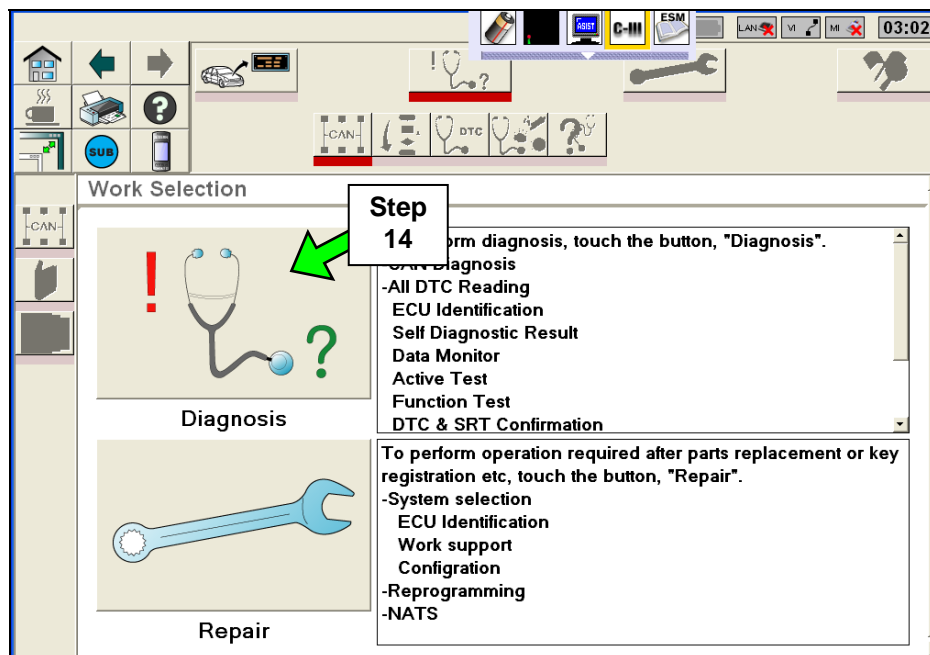

Figure 4
14. Select **Diagnosis** (see Figure 4).